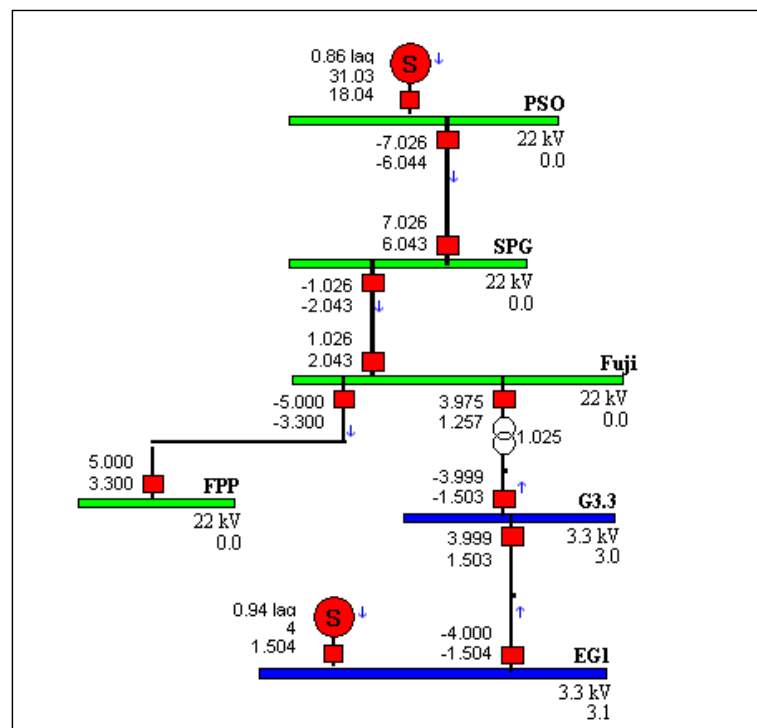

Figure: Q9-Q10
9. The intake supply to an industrial plant Fuji is fed by one 22-kV feeder from node SPG which is connected to an equivalent utility system PSO as shown in Figure: Q9-Q10. The load at PSO is 24 MW and 12 Mvar, at SPG is 6 MW and 4 Mvar and at node FPP is 5 MW and 3.3 Mvar. There is no load at all other nodes. The 22-kV network at Fuji is also step down to 3.3 kV at nodes G3.3 and EG1 with the local generator at node EG1 generating at 4 MW at a power factor of 0.94 lag synchronizing to PSO. The line flow at sending end and receiving end of each circuit is shown in MW and Mvar with positive sign indicating that the MW is injected to the node, and negative sign as the MW is outgoing from the node listed in Figure: Q9-Q10 below.
In the system above as shown in Figure: Q9-Q10, the power factor at Fuji intake is below 0.85. If the output of the local generator is still kept at 4 MW and the power factor at the Fuji intake has to be above 0.85, the plant operator should:
10. In the same system above as shown in Figure: Q9-Q10, it is assumed that the local generator is operated at the maximum output of 8 MW at a power factor of 0.88 lag. However, the frequency in the industrial plant Fuji is reducing from 50 Hz to 49 Hz. To improve the frequency from 49 Hz to 50 Hz, the plant operator should: